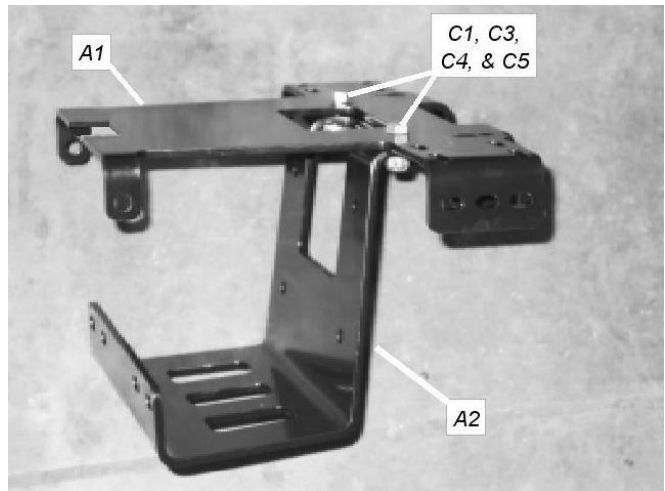

Figure 12 Assemble Upper and Lower Brackets
4. Assemble the upper mounting bracket (A1) and the lower mounting bracket (A2) with two 8mm dia x 25 mm bolts (C1), 5/16" dia flat washers (C3), 5/16" dia lock washers (C4), and 8mm dia regular nut (C5) as shown in figure 12. The flat washer and lock washer should go on the nut side with the lock washer between the flat washer and regular nut. Do not tighten the nuts and bolts completely just yet. This will be done later in the installation.
10. Now tighten the two 8mm dia x 25mm long bolts (C1) and 8mm dia regular nuts (C5), shown in figure 12, to a recommended torque of 14 ft-lb (19 N-m).